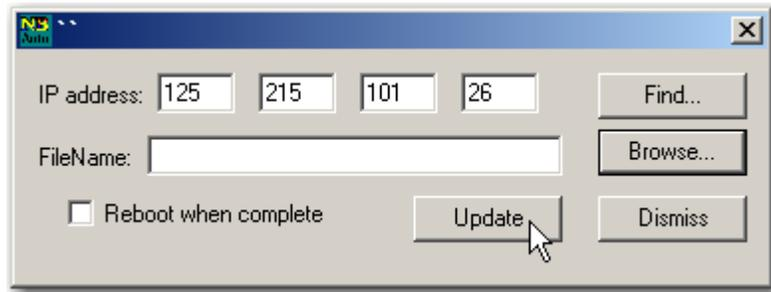

FIG. 44 AUTOUPDATE PROGRAM
Step 10. Press on Run to install the program or double click on the AutoUpdate.exe file if you saved the AutoUpdate application. The AutoUpdate program appears. (See Fig. 44)
- If the controller is not on your network, Enter the IP address of the Hardy instrument you want to update in the IP Address fields. (See Fig. 44)